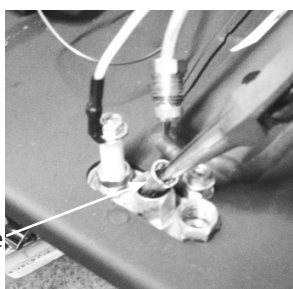

Figure 9.
Step 12: Remove the pilot burner orifice and replace it with the LP orifice (stamped 27) provided. Take care to observe the proper orientation. See Figure 9.